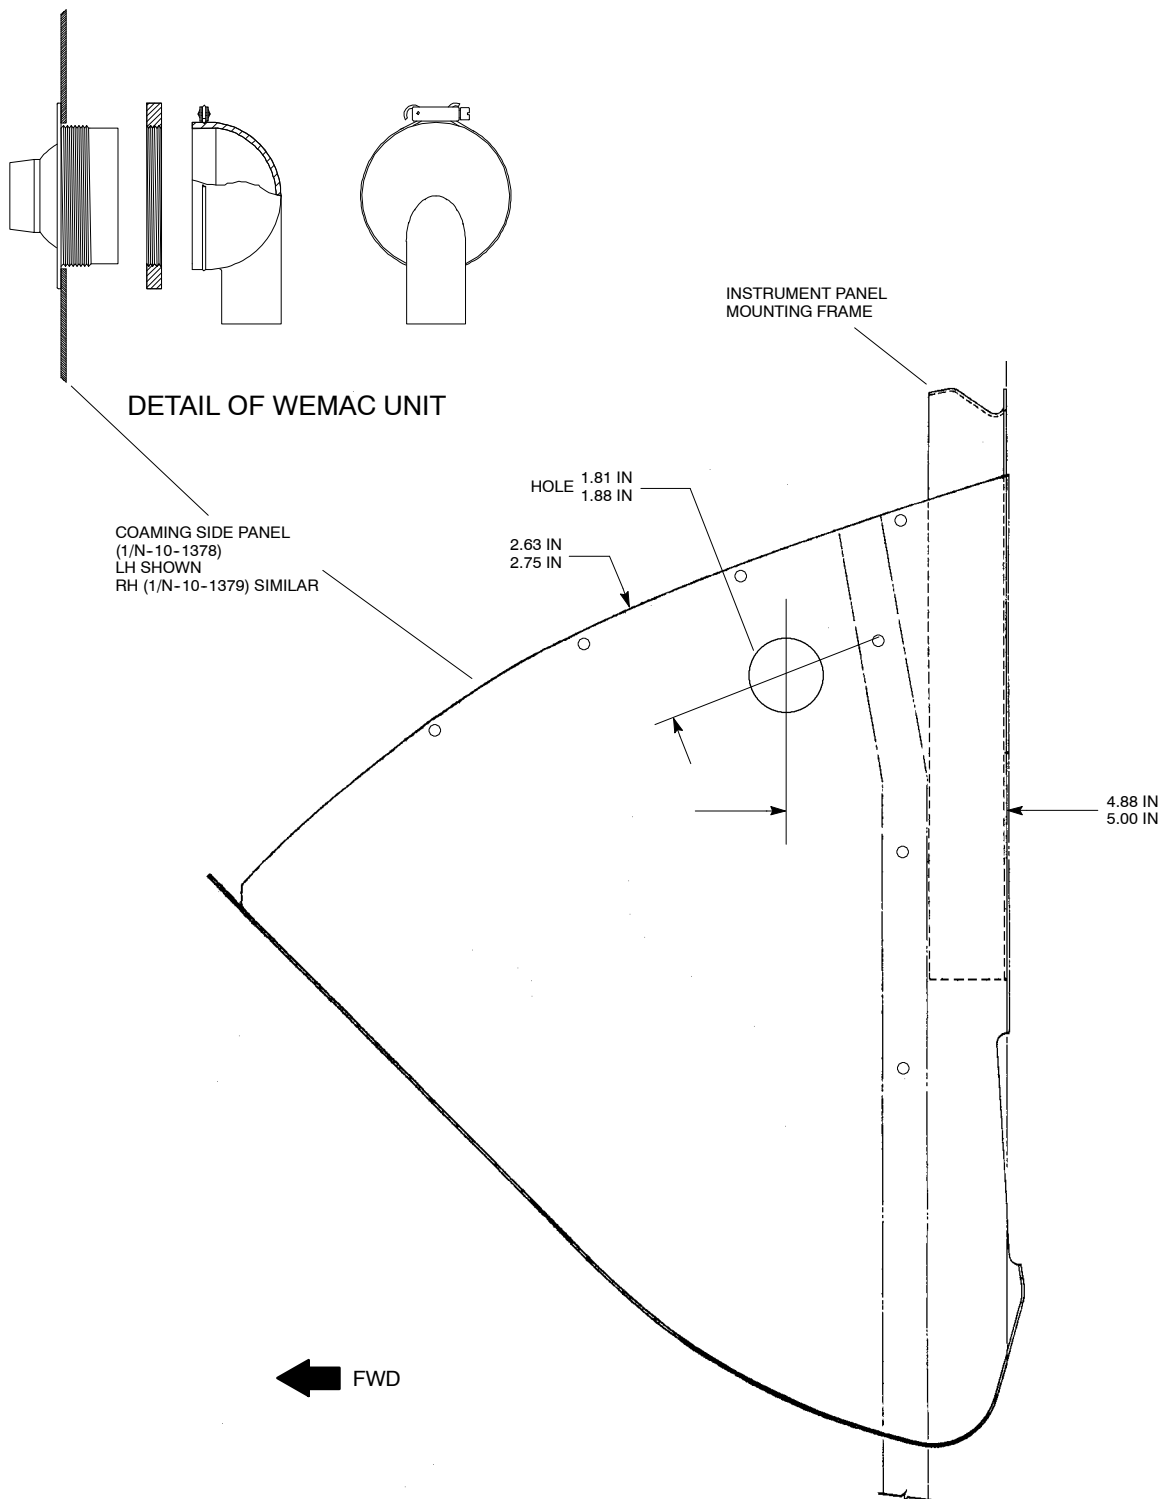

Figure 4 Location of Side Demist Outlets
- (4) Finish coat (to FED STD 595, Matt Back) both Demist Outlet Assemblies prior to installation.
- (5) Attach Demist Outlet Assemblies (1/N-74-475/6) to forward diaphragm, using socket head cap screws (NAS13513H8) and washers (AN960-10).
- (6) Lockwire screw heads together (using NAS20995-F32), taking care not to apply excessive pressure against Demist Inlet.
- (7) Mark off and cut holes in the left and right side shroud panels as per Figure 4.
- (8) Install WEMAC air outlets.
- (9) Wrap new T-ducts (BWT18572-1) with foam adhesive tape (3M P/N 4314) and duct sealing tape (3M P/N 472 or 474) prior to installation.